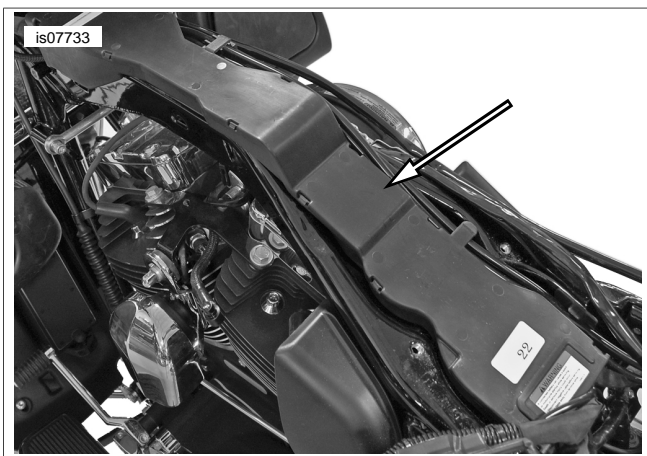

Figure 1. Wire Trough
2. See Figure 1. Remove the wire trough cover.